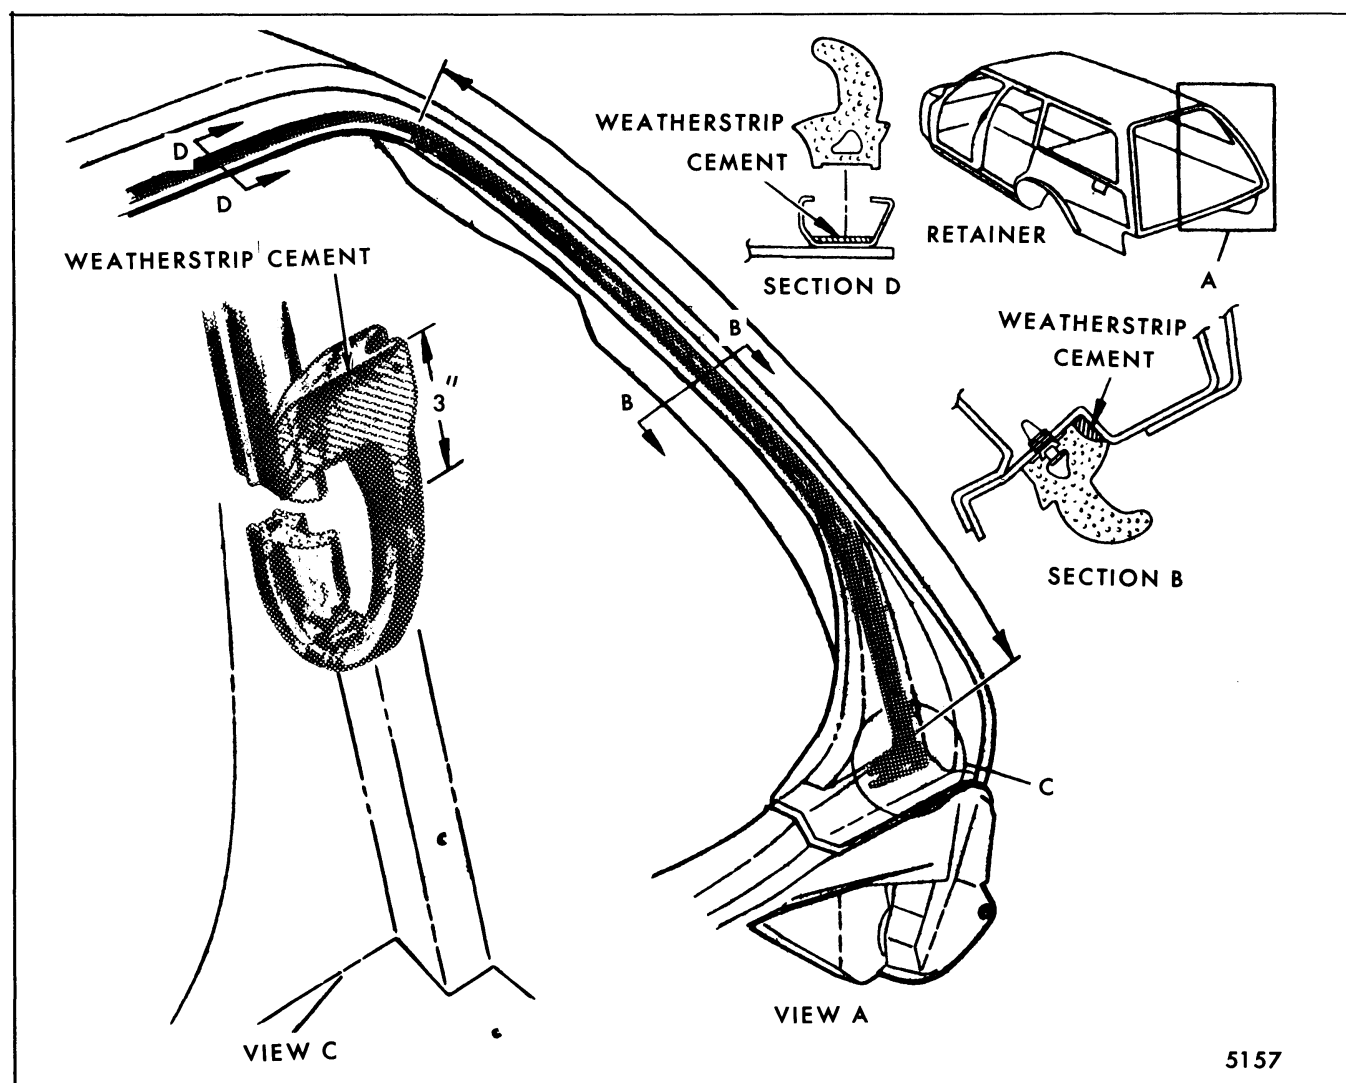

Fig. 7-54-Back Body Opening Weatherstrip Installation
A one piece weatherstrip seals the tail gate along both sides and across the top of the back body opening. At the top of the opening, the weatherstrip is cemented into a weld-on retainer. Nylon fasteners are a component part of the weatherstrip and secure the weatherstrip along the sides of the opening by engaging piercings in the back body pillar. Serrations on the fasteners retain the fastener into the piercings and seal the openings from water entry. In addition, a bead of weatherstrip cement is applied between the outboard surface of the weatherstrip and the vertical wall of the back body pillar along each side of the back body opening, as well as beneath the lower end of the weatherstrip (Fig. 7-54).
4. Locate upper weatherstrip fasteners (each side) to uppermost piercings and insert weatherstrip into retainer as shown in Figure 7-54.